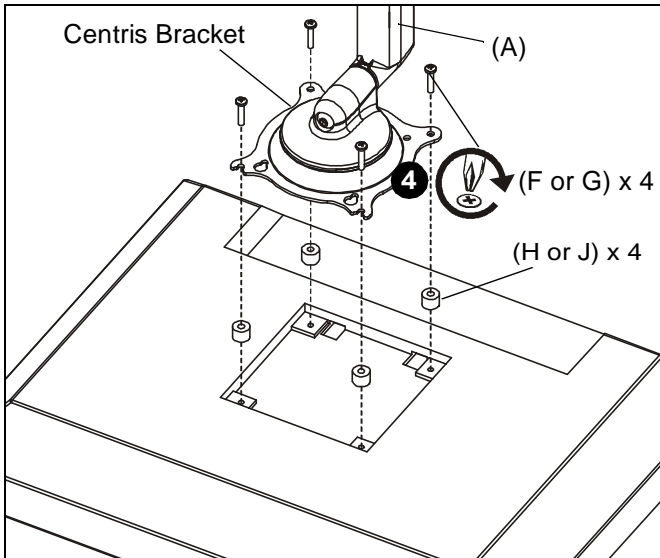

Figure 7
IMPORTANT ! : If your display has a recessed mounting hole cavity, *and* the Centris bracket will not fit into that cavity (See Figure 7), then follow the "ALL MOUNTS REQUIRING SPACERS" procedure.
IMPORTANT ! : Spacers (H and J) are used only if your display has a recessed mounting hole cavity, *and* the Centris bracket will not fit into that cavity (See Figure 7).
2. Place four spacers (H or J) over each of the mount holes on the back of the display. (See Figure 7)
3. Pick up and orient the mount (A) so that the mounting holes in the Centris bracket are aligned with the holes in the spacers (G). (See Figure 7)
4. Using Phillips screwdriver, install four screws (F) through the mounting holes/cutouts in Centris bracket, through the spacers (G), into the display. (See Figure 7) Tighten all four screws (F). Do not over-tighten!